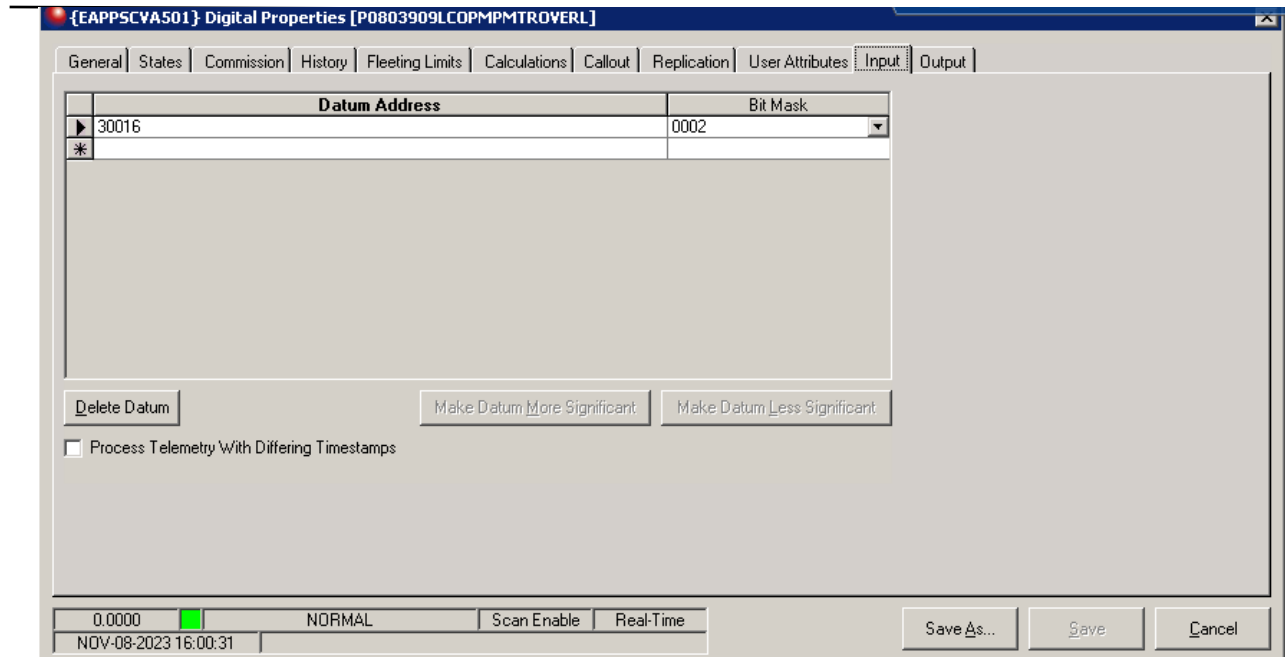

Figure 8: Screenshot showing address 30016 with bit mask 2
- Locate the “Ethernet Configuration” panel (figure 8)